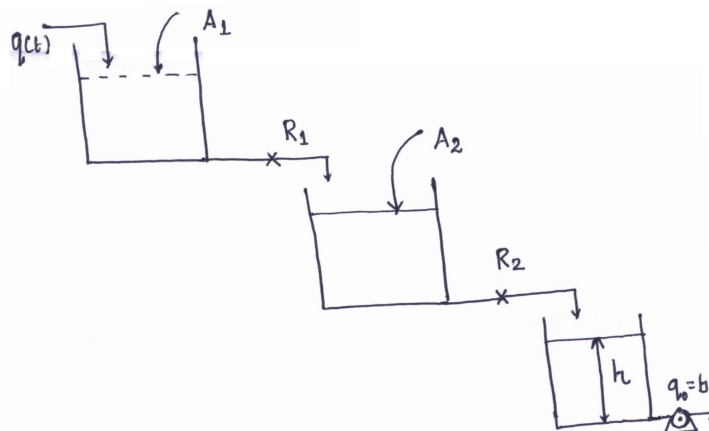

Fig. Q4 (b)
- b. Determine the transfer function  $\frac{H(s)}{Q(s)}$  for the liquid level system shown in Fig. Q4 (b). Resistances  $R_1$  and  $R_2$  are linear. The flow rate from the tank 3 is maintained constant at  $b$  by means of a pump ; i.e. the flow rate from tank 3 is independent of head 'h'. The tanks are non-interacting.